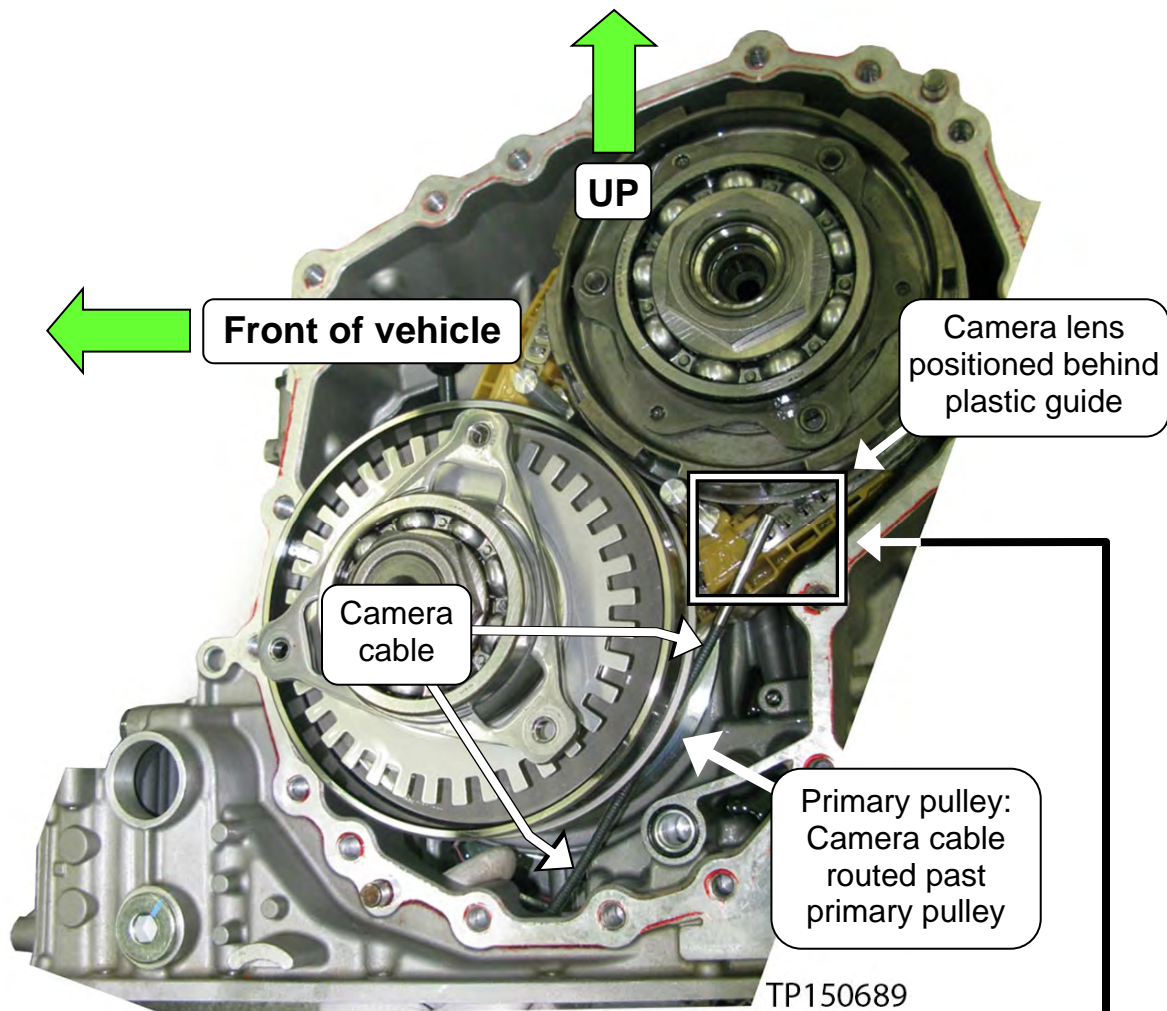

Figure 9
- a. First inspect the entirety (360°) of the driver side of the chain that comes in contact with the pulley (see page 10, Figure 9 and 10, and page 12, Figure 13).
- Figure 9 shows where to insert the camera lens on the passenger side of the chain.
- Figures 9 and 10 shows the routing and location of the camera.